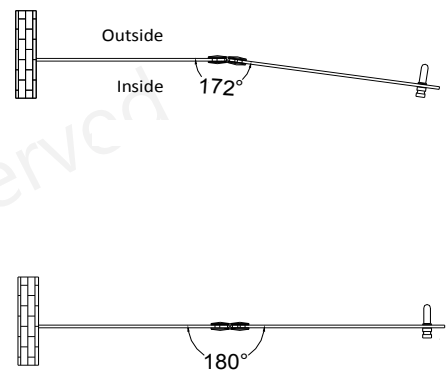

Figure 3
**3.** Use the supplied Allen Key to loosen the adjustment screws on the hinge plate, adjust the door to the desired angle then tighten the adjustment screws. (Figure 3)